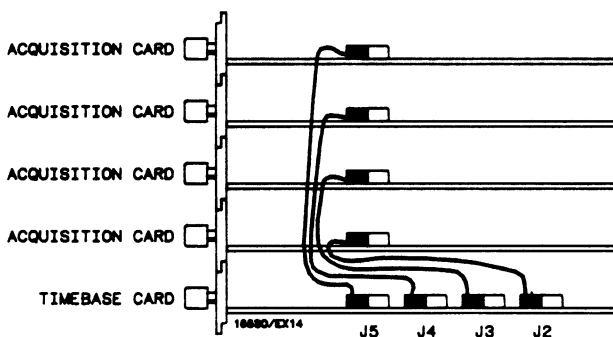
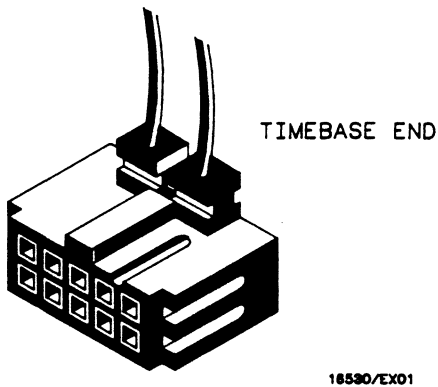

Figure 2-2. Configuration Guide
Figure 2-3. Cable End
- Use one cable per acquisition card. See figure 2-2.
- Note the above "INSTALLATION CONSIDERATIONS" and use figure 2-2 to plan the card configuration and cable connection.
- g. Install one cable per acquisition card into the correct timebase card connector (see figure 2-2), making sure to install the correct cable end. Use figure 2-3 to identify the correct cable end.